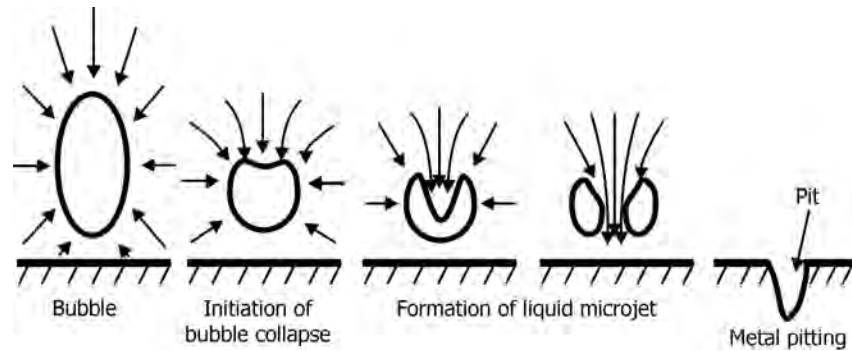

FIGURE 5.8 Bubble formation, collapse, and metal damage. (Source: www.cheresources.com.)
- The collapse of the bubbles also ejects destructive microjets of extremely high velocity, up to 100 m/s, causing abnormal sounds, vibrations, and extreme erosion of the pump parts, pitting, and denting in the metal of the casing and the impeller blades, as illustrated in Figure 5.8.